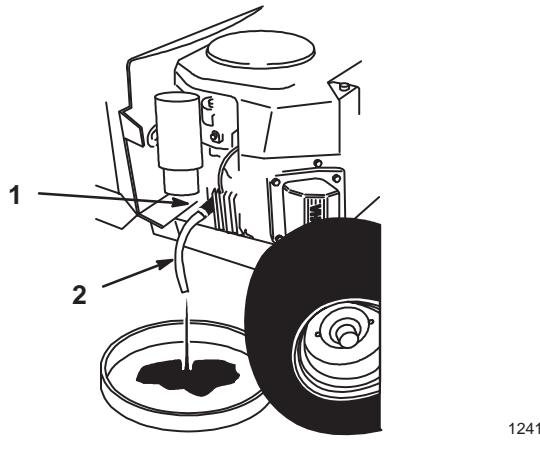

Figure 21
5. Place a pan below the oil drain. Open the drain by turning counterclockwise, 1/8 turn, and pull out (Fig. 21).